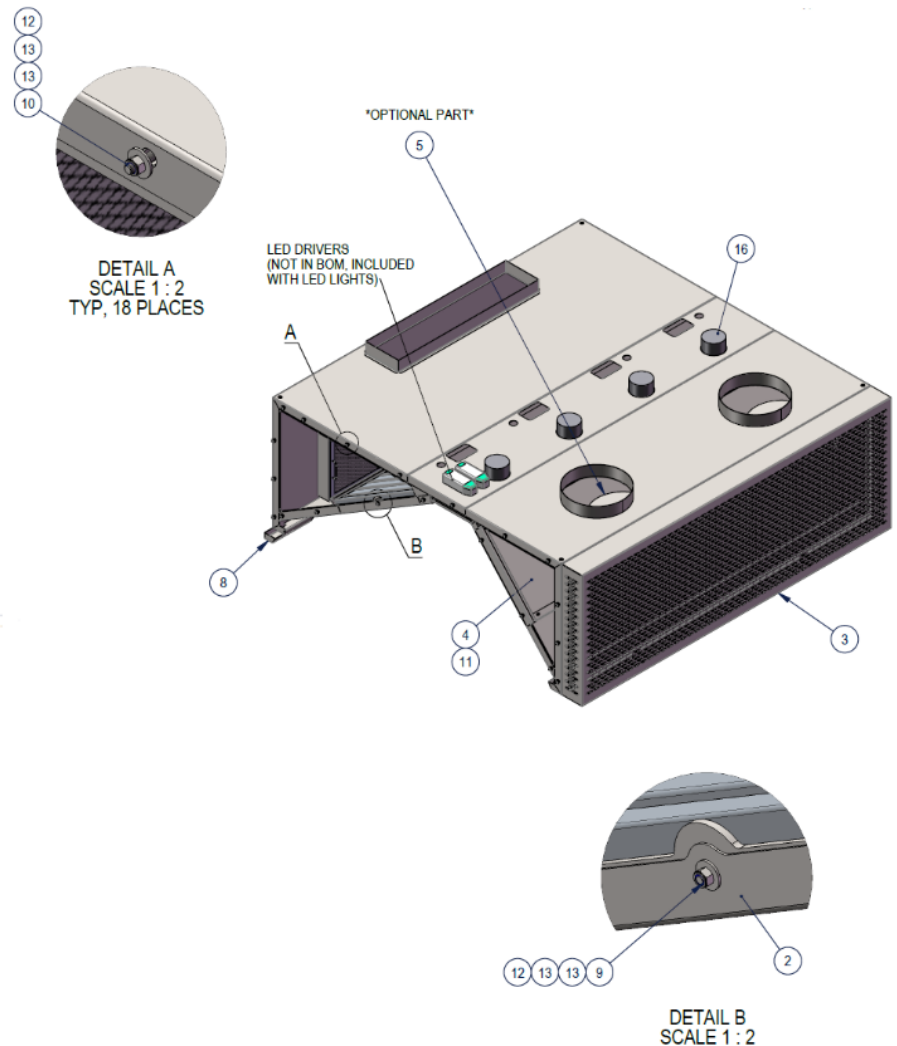
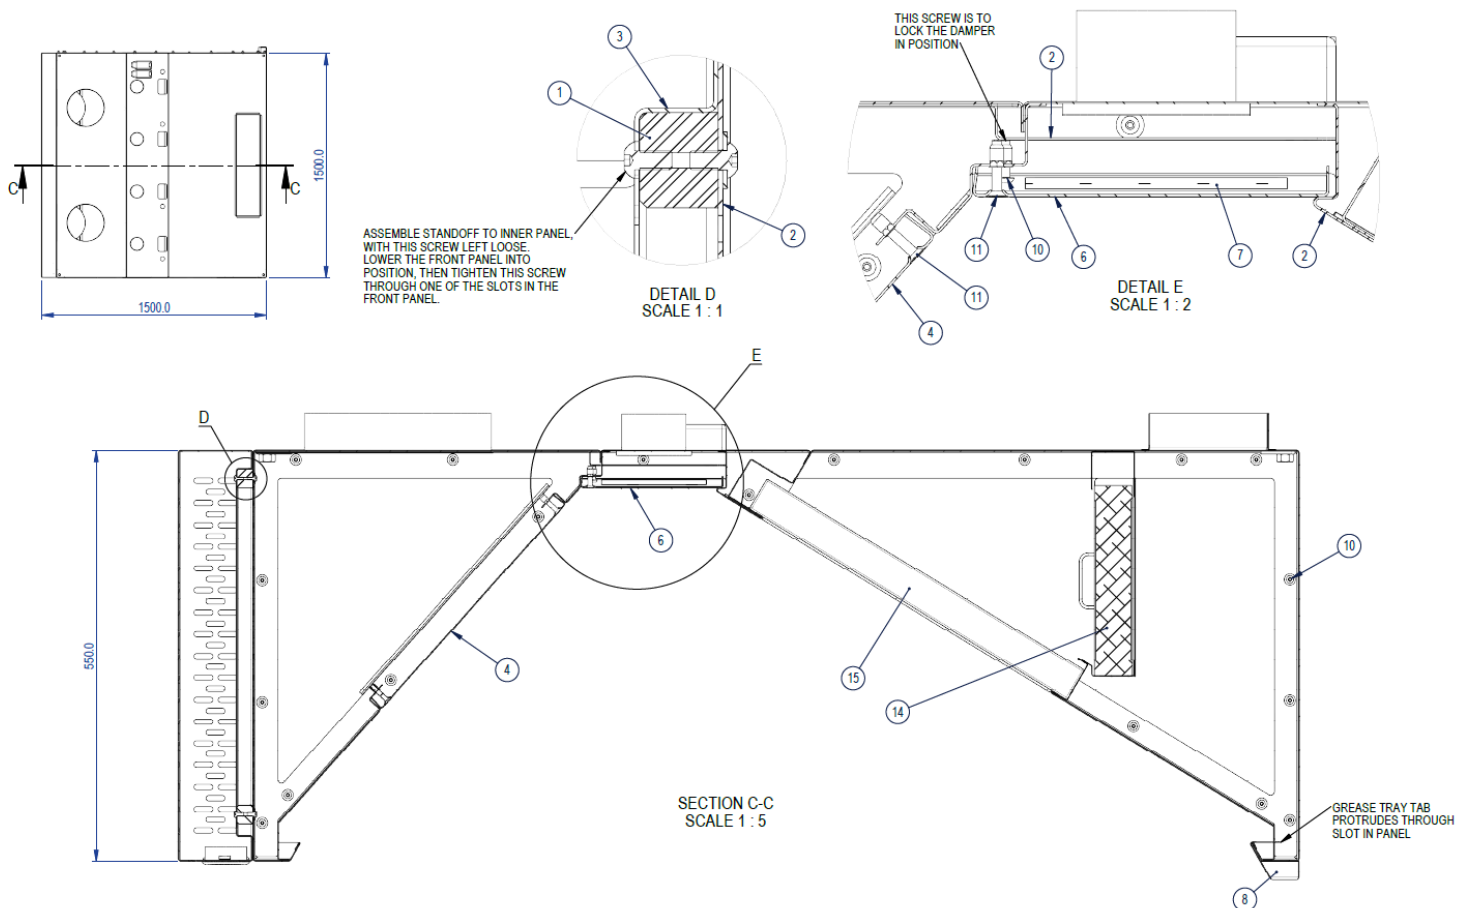
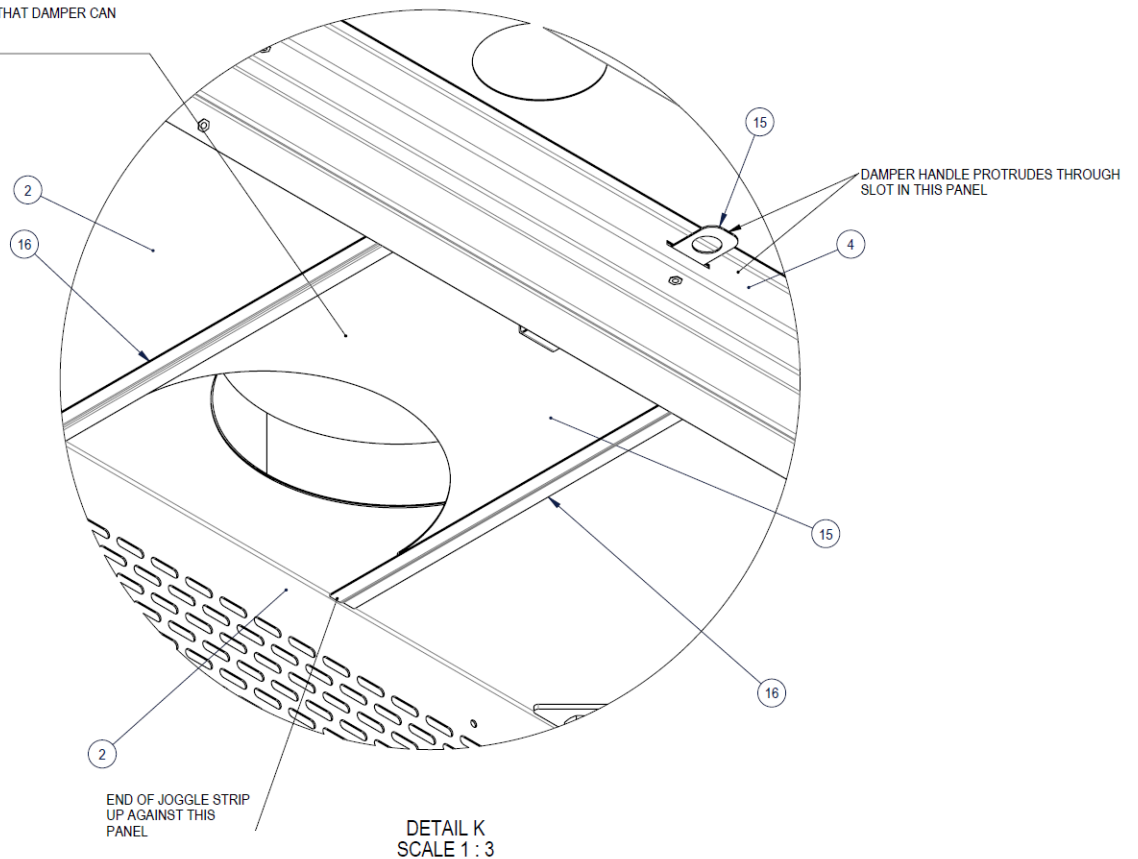

Figure 3
Figure 4
Figure 6
- Bolt ends to hoods and seal joints make sure that all bolt fixing points as seen in SECTION C-C are fitted securely. Nut and washer to the one side as in DETAIL A and B in Figure 3 and locations in Figure 4. There are 19 bolts required per module join (M5X20MM). See more detail in section 3.5 Joining Modules.
- Skip this point if the front perforated panel is already attached. These panels (2001A) can be fitted before or after lifting. See detail D in Figure 4 and also 9. OPERATION AND MAINTENANCE. The front panel attaches at 6 points with assembly (0006) including 6 x bosses and 12 x bolts. Bosses are fitted tight to the hood section through the makeup air access panel (2007C). Front facing screws are left loose for keyhole fittings and final tightening is made with an Allen key through the front perforations.
- Once ducting is connected, fresh air can be adjusted. See detail in Figure 6 . If it is possible you can do this before fitting the light cover (2009A,B).
- Exhaust air can be adjusted on some models with a similar mechanism as in Figure 6. If it is possible you can do this before fitting the light cover (2009A,B). If necessary exhaust flow can be further adjusted by fitting sliding plates. Part labelled 5 in Figure 3 can be used (OPTI 2008E).
- Install the remaining bolts as in DETAIL A and B in Figure 3 and make sure they are all fully tight.